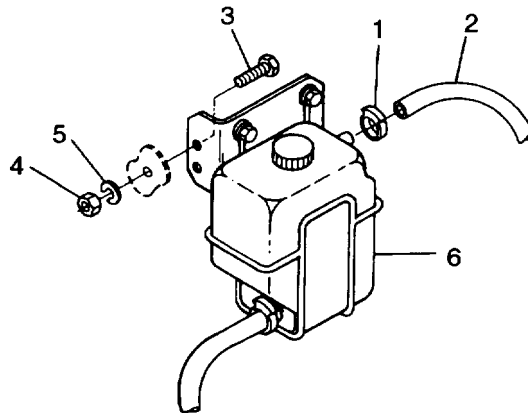
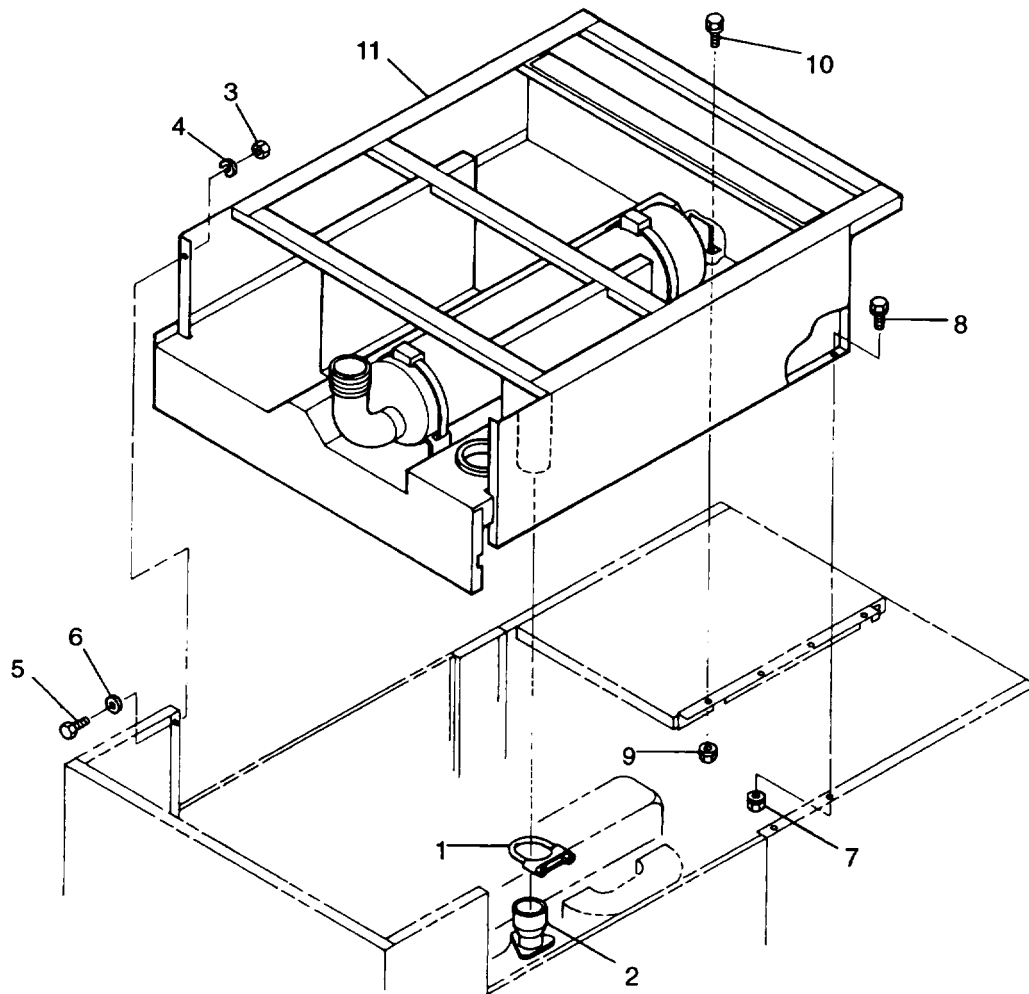

FIGURE 3-4. Overflow Bottle Assembly
FIGURE 3-5. Top Housing Assembly
- i. Remove filler hose and panel assembly (5) from generator set.
- j. Cut wire ties (6) supporting overflow hose (4) to upper radiator supports (7).
- k. Remove clamp (1, FIGURE 3-4) and disconnect hose (2) from overflow bottle assembly (6).
- l. Remove bolts (3), nuts (4), lockwashers (5), and overflow bottle assembly (6) from left side of engine.
- m. Remove exhaust pipe clamp (1, FIGURE 3-5) at exhaust manifold adapter (2).
- n. Remove nuts (3), lockwashers (4), washers(6), and bolts (5) securing top housing assembly (11) to front housing.
- o. Remove assembled nuts (7) and bolts (8) securing top housing assembly (11) to rear side panels.
- p. Remove assembled nut (9) and bolt (10) securing top housing assembly (11) to output box angle.
- q. Using a lifting device, remove top housing assembly (11).